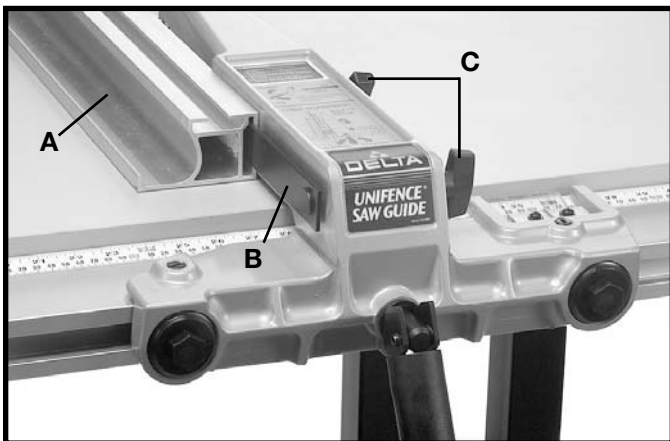
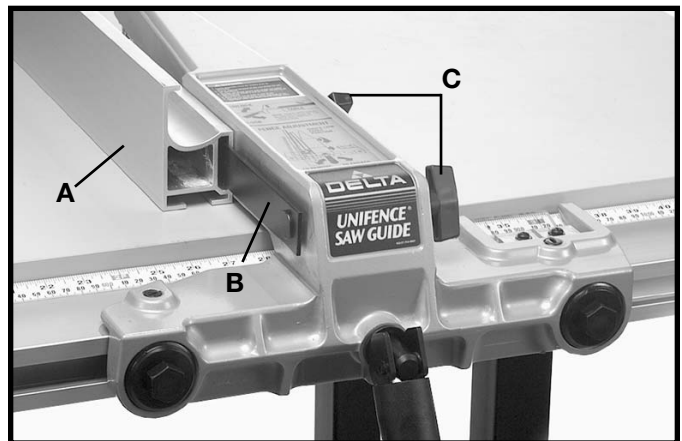

Fig. 89
Fig. 90
1. The fence (A) can be assembled to clamp plate (B) in either the horizontal position as shown in Fig. 89, or the vertical position as shown in Fig. 90. Make certain the two lock knobs, one of which is shown at (C), are loose and slide fence (A) onto clamp plate (B) as shown. Then tighten the two lock knobs (C).